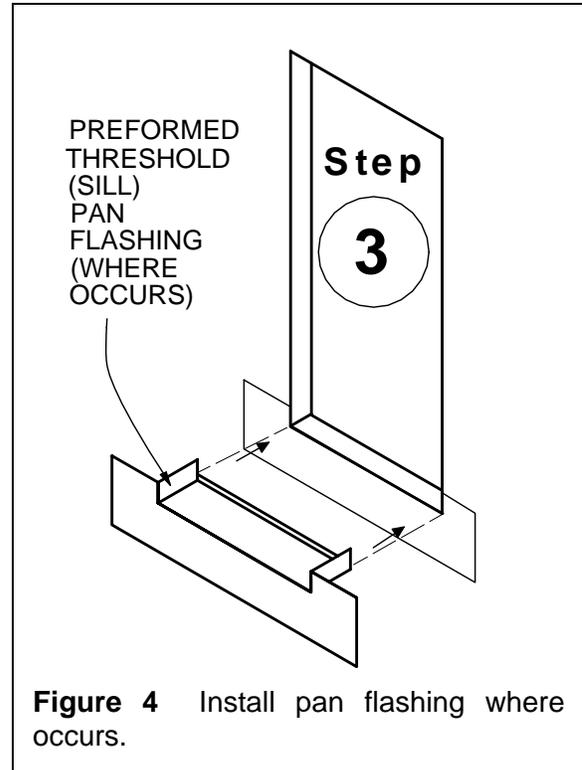

Figure 4 Install pan flashing where occurs.
Step 3. Install preformed threshold (sill) pan over Polyken® or Nashua® sill flashing. Do not fasten pan through horizontal portion of pan. (See Figure 4).